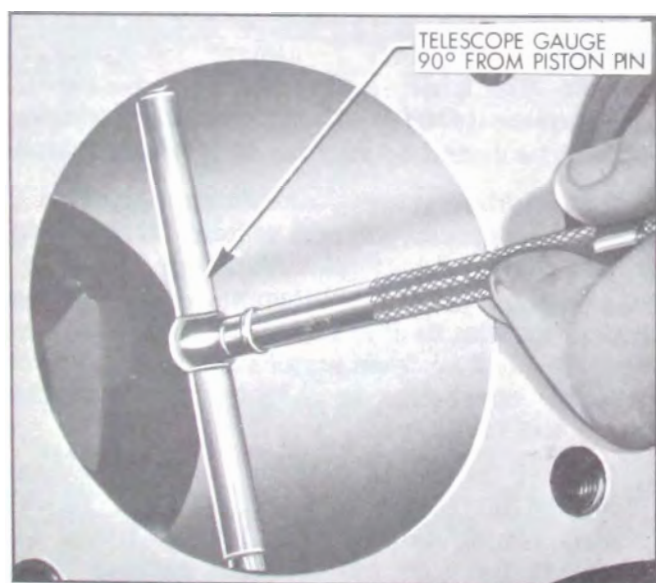

Figure 2-53—Using Telescope Gauge in Cylinder Bore
1. Expand a telescope gauge to fit the cylinder bore at right angles to the piston pin and between 1-1/2" and 2" from the top. See Figure 2-53.